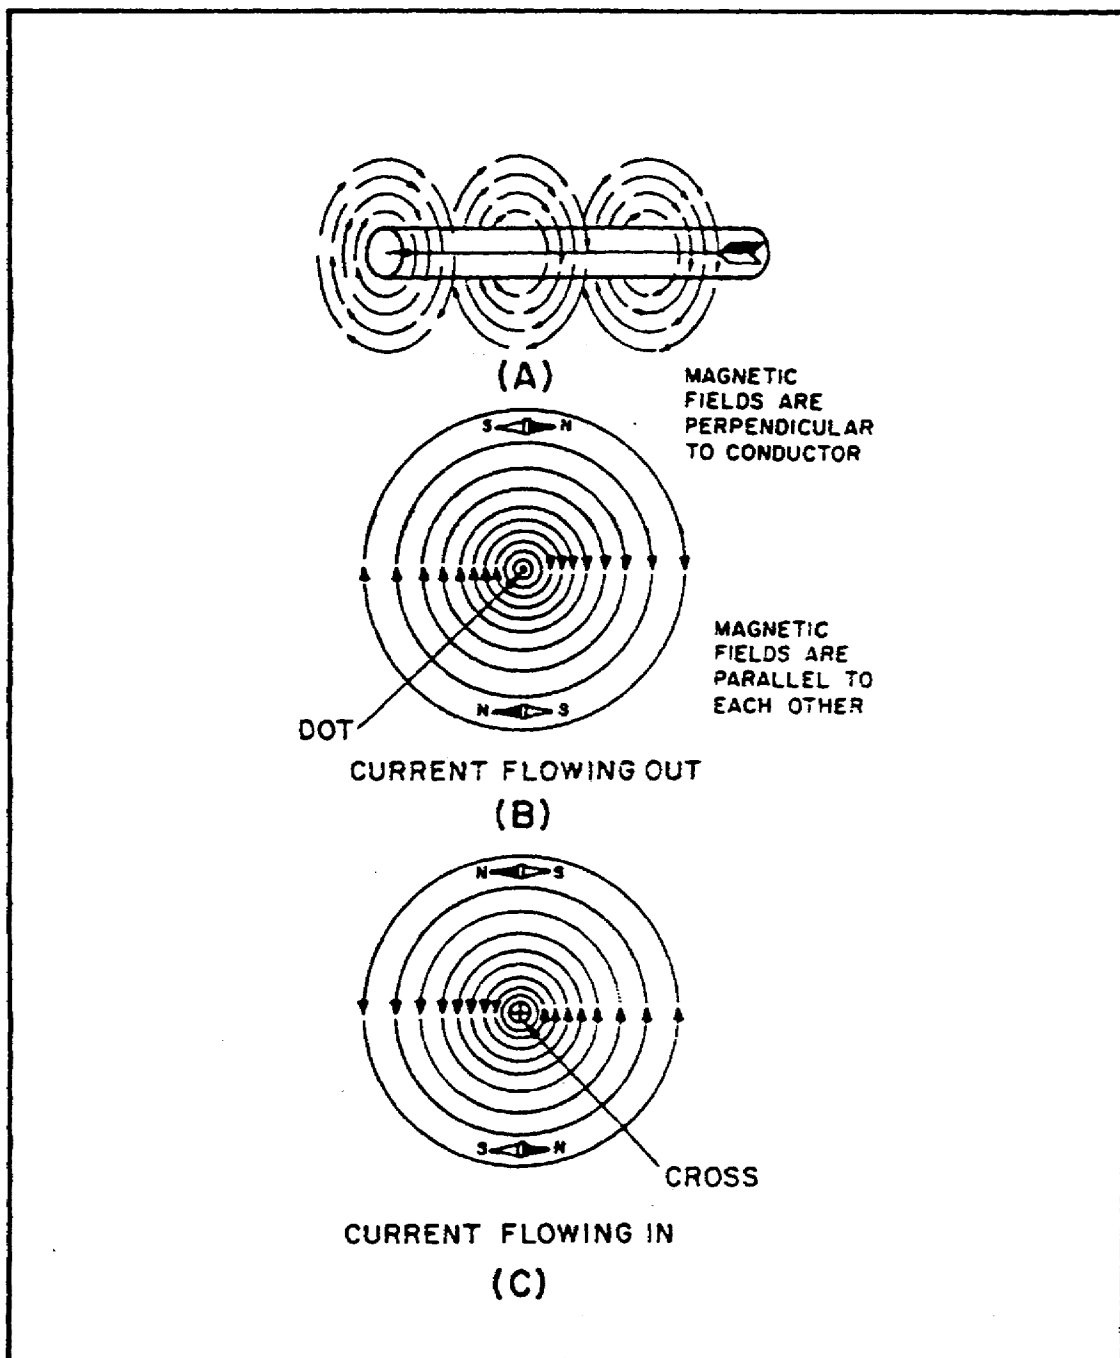
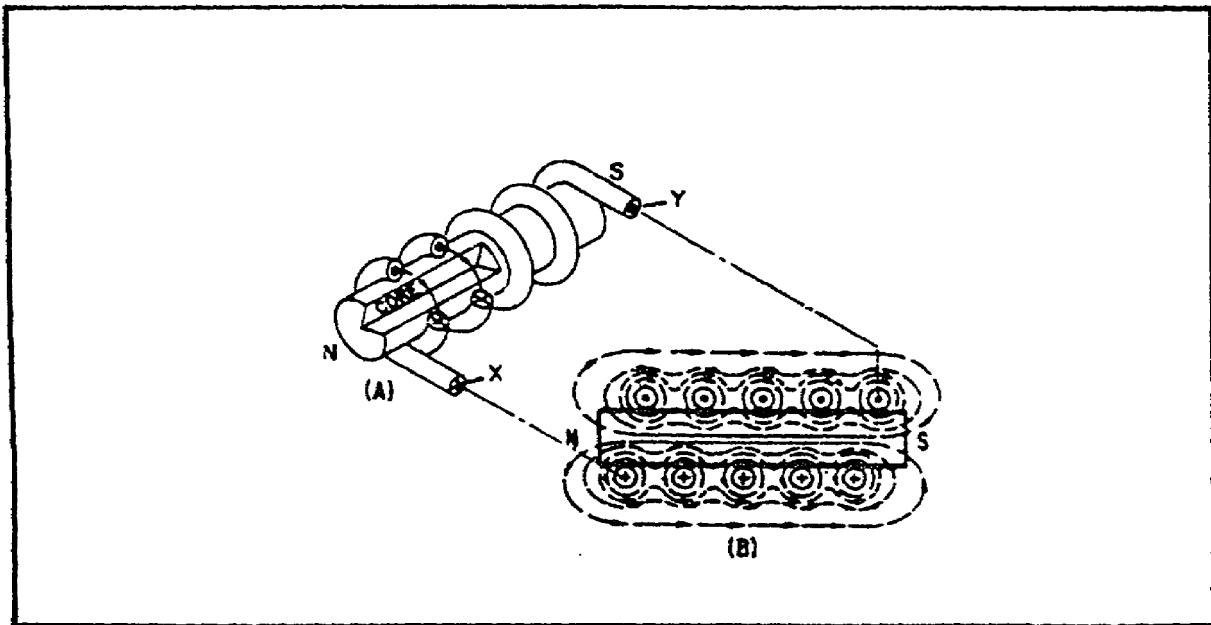

FIGURE 54. THE MAGNETIC FIELD AROUND A CURRENT-CARRYING CONDUCTOR, DETAILED VIEW.
FIGURE 56. MAGNETIC FIELD PRODUCED BY A CURRENT-CARRYING COIL.
The relation between the direction of the magnetic lines of force around a conductor and the direction of current in the conductor may be determined by means of the LEFT-HAND RULE FOR A CONDUCTOR: if you grasp the conductor in your left hand with the thumb extended in the direction of the electron flow (current (- to +)), your fingers point in the direction of the magnetic lines of force. Now apply this rule to figure 54 (on the following page). Note that your fingers point in the direction of the north pole of the compass points when it is placed in the magnetic field surrounding the wire.
An arrow is generally used(in electrical diagrams to denote the direction of current in a length of wire (figure 54, view A). Where across section of a wire is shown, an end view of the arrow is used. A cross-sectional view of a conductor that is carrying current toward the observer is illustrated in figure 5,1, view B. Note that the direction of current is indicated by a (dot, representing the head of the arrow. A conductor that is carrying current away from the observer is illustrated in figure 54, view C. Note that the direction of current is indicated by a cross, representing the tail of the arrow. Also note that the magnetic field around a current-carrying conductor is perpendicular to the conductor, and that the magnetic lines of force are equal along all parts of the conductor.
f. *Magnetic Field of a Coil.* Figure 54 (on the previous page) illustrates that the magnetic field around a current-carrying wire exists at all points along the wire. Figure 56 illustrates that when a
straight wire is wound around a core, it forms a coil and that the magnetic field about the core assumes a different shape. Figure 56, view A, is actually a partial cutaway view showing the construction of a simple coil. Figure 56, view B, shows a cross-sectional view of the same coil. Notice that the two ends of the coil are identified x and y.
When current is passed through the coil, the magnetic field about each turn of the wire links with the fields of the adjacent turns (figure 56, view A). The combined influence of all the turns produces a two-pole field similar to that of a simple bar magnet. One end of this coil is a north pole and the other end is a south pole.